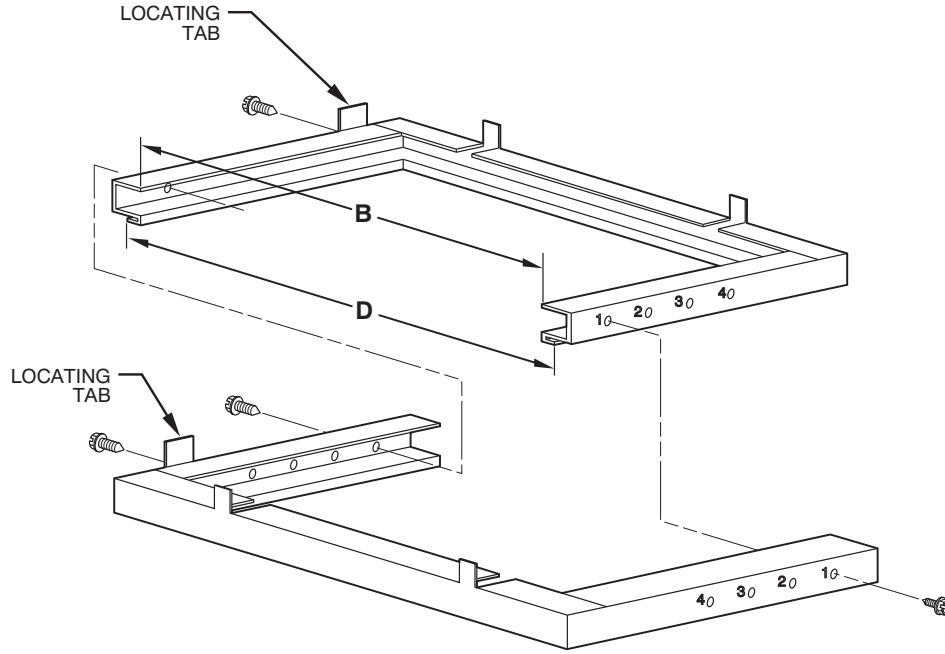

Fig. 2 - Disassembled Floor Subbase
- a. Arrange base parts as shown in Fig. 2.
NOTE: Each successive hole in the adjustable rail must be matched with the same numbered hole of the opposite rail, first hole to first hole, second hole to second hole, etc. (See Table 2 and Fig. 2.)
- c. Fasten rails together with screws provided in kit. (See Fig. 2.)
4. Install subbase over hole cut in floor. Locating tabs on subbase **MUST** be at sides and back of furnace when installed. (See Fig. 2.)